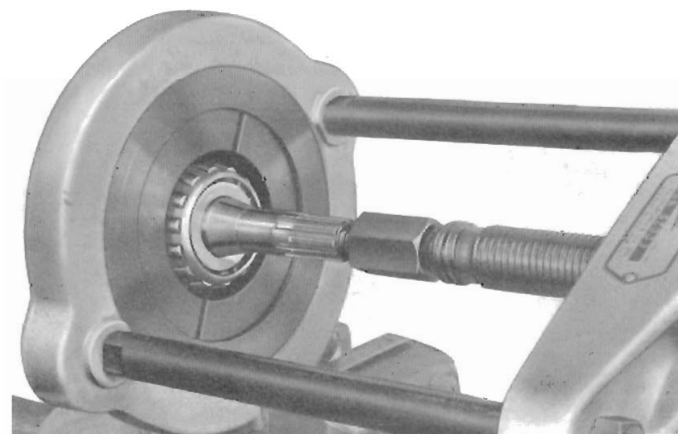

Fig. 35. Using Churchill press and adaptors S4221A-4 to remove pinion head bearing
Remove the split pin (1), nut (2) and plain washer (3). Withdraw the flange (4) from the pinion (18) and drive the pinion from the casing. Carefully keeping all shims intact, remove these and the spacer from the pinion. Extract the pinion head bearing as shown on Fig. 35.